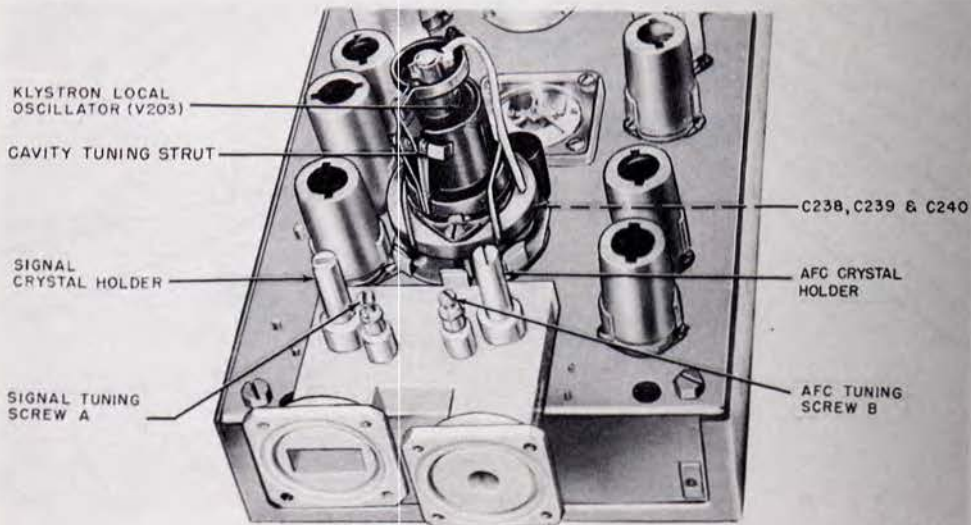

Figure 137. Mixer and klystron local oscillator.
- a. Unscrew the crystal holder (fig. 137) and remove the holder and crystal from the mixer.